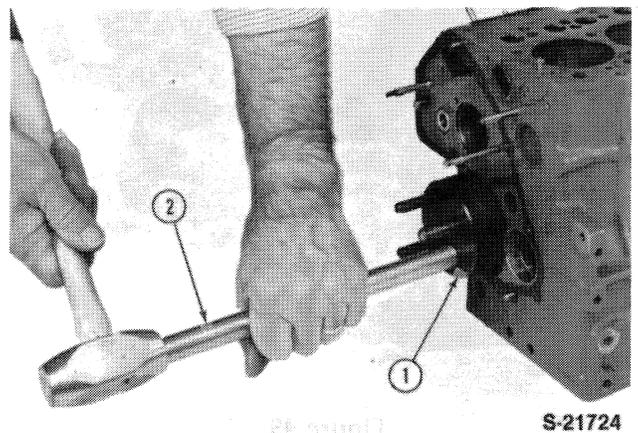

Figure 48
- 4. Use a suitable driver and install the port block assembly as shown, Figure 48.